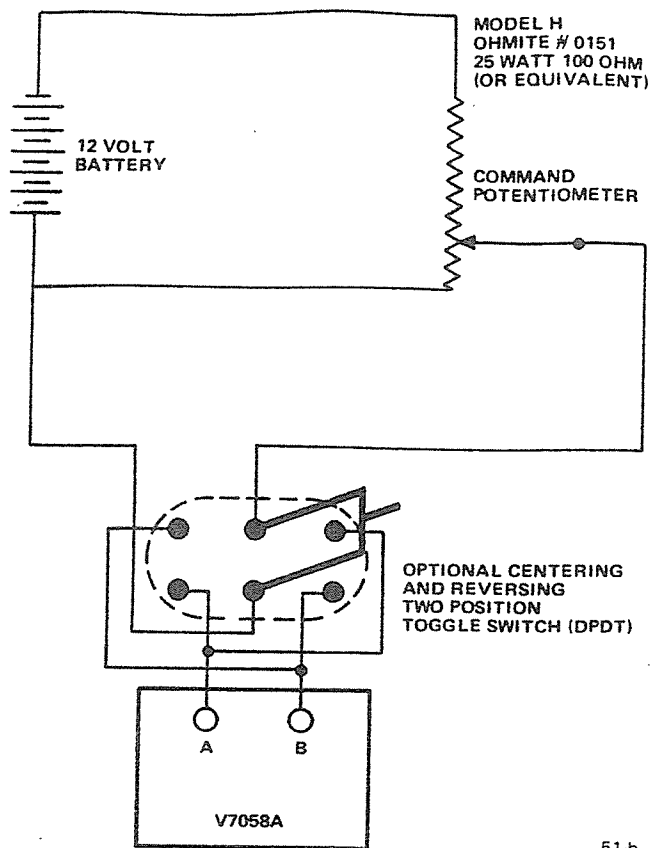

Figure 6—Typical Hookup for Unidirectional Control, 12-Volt Source.
7. Connect input leads to the valve. Typical hookups are shown in Figures 6 and 7. A positive voltage on terminal "A" will open cylinder port #1 to produce flow out of port "A" of the pump.